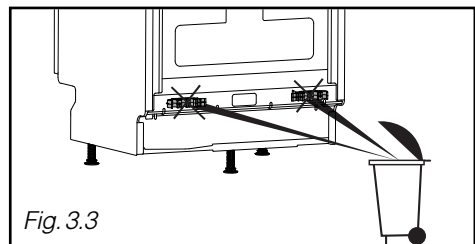

Fig. 3.3
- **Remove the hose brackets** (Fig. 3.3)